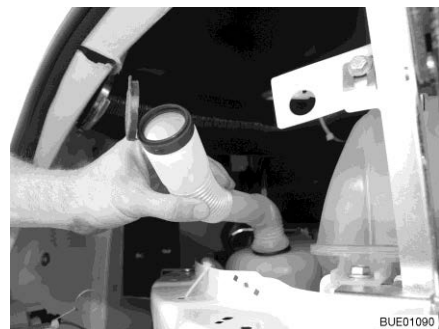

Fig. 43 Filler neck in filling position
- Twist the flexible hose in a way so that the filling hole points upwards (Fig. 43).